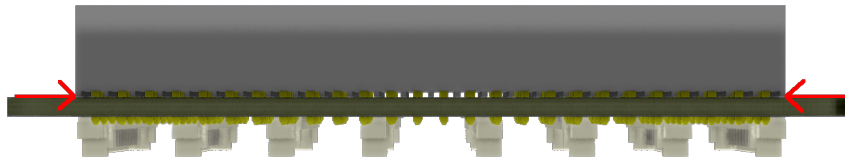

Figure 3.2: Alignment of the PC-104 connectors.
2. Solder the PC-104 connectors (J9 and J10), taking care to keep the alignment of all the pins with the surface of the board, as can be seen in Figure 3.2.